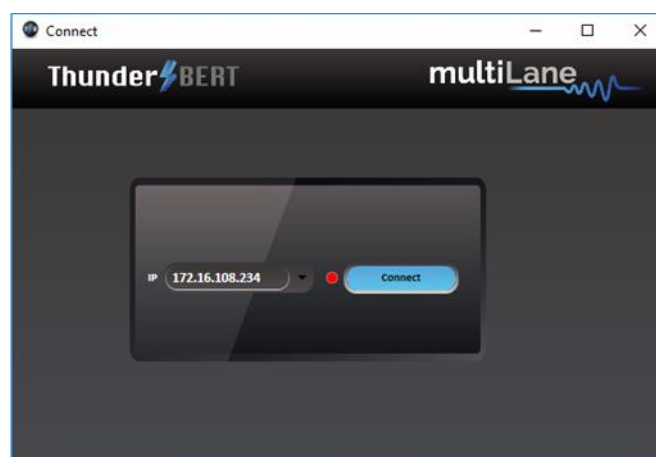

Figure 2: Connection box
- **Connect** using the IP address of the target instrument (Figure 2). The IP address is printed on the back side of the BERT.
- The red-light indicator (R) will remain red while no connection is established (Figure 2).